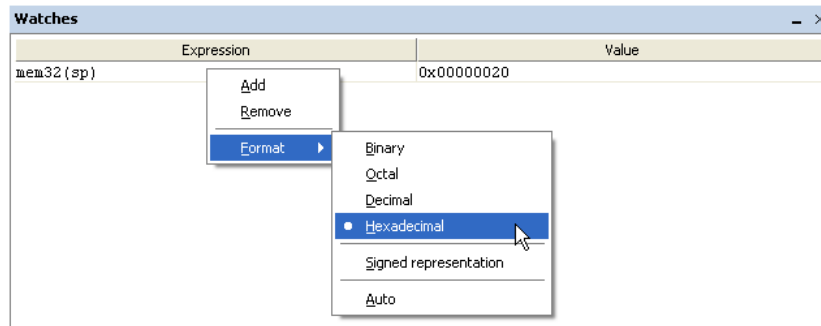

Figure 46. Changing the number format of a watch value.
5. The number format of the displayed value can be changed by right-clicking on the row for that value, as shown in Figure 46.